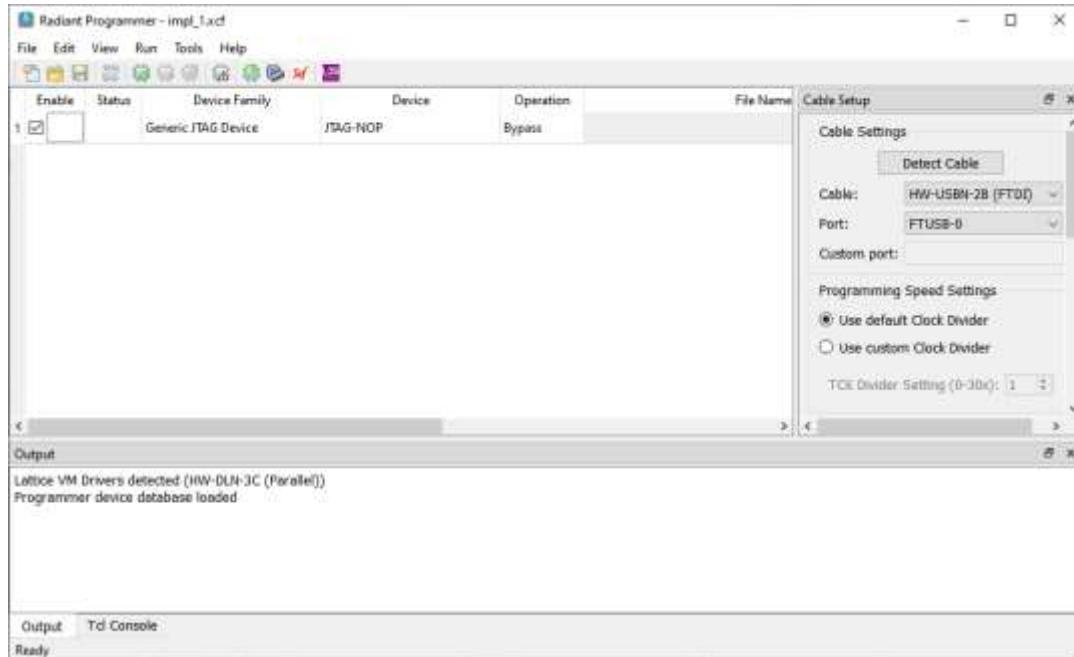

Figure 11.2. Radiant Programmer – Initial Opened
3. After the Radiant Programmer interface opens (Figure 11.2), power up MachXO5T-NX Development Board by correctly positioning the power switch **SW6**.